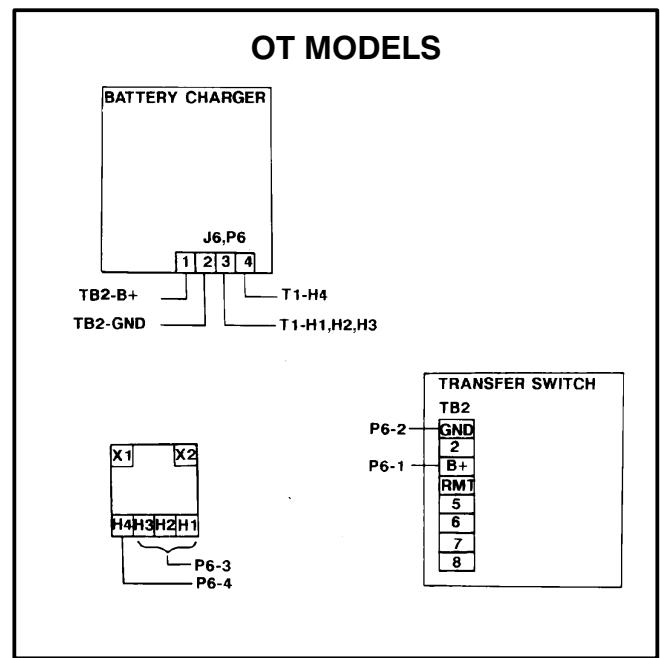
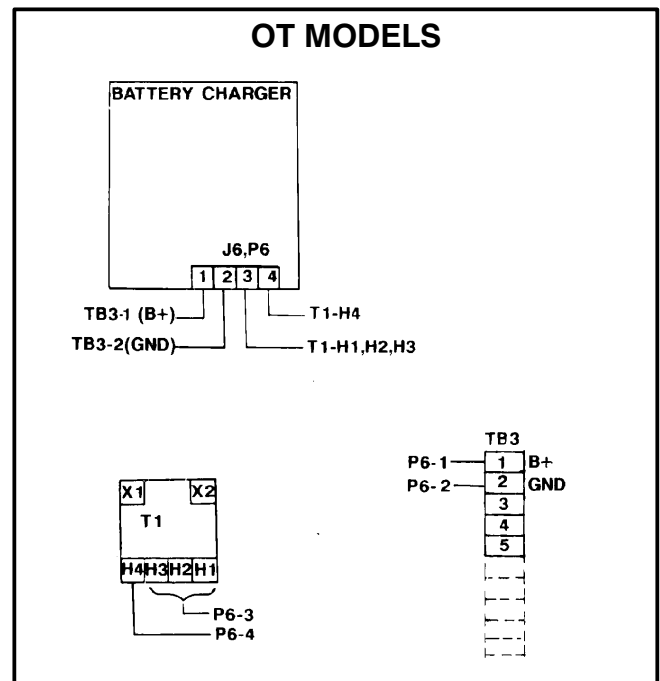

FIGURE 2. WIRING DIAGRAM 2-WIRE START
FIGURE 3. WIRING DIAGRAM 3-WIRE START
8. **OT Models:** Connect the kit harness leads to transformer T1 (on the accessory control panel) and to TB2 or TB3 as shown in Figure 2 (2-wire start) or Figure 3 (3-wire start).